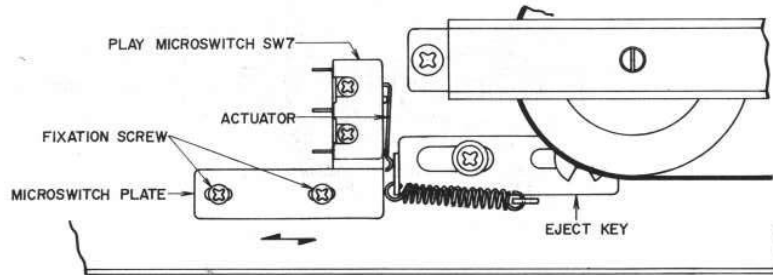

Fig. 9
7. POSITION ADJUSTMENT OF PLAY MICROSWITCH (See Fig. 9)
At playback mode, adjust by moving the microswitch plate shown in Fig. 9, as indicated by the arrow mark in the figure so that play microswitch (SW7) is perfectly turned ON. Tighten fixation screw to maintain this condition.